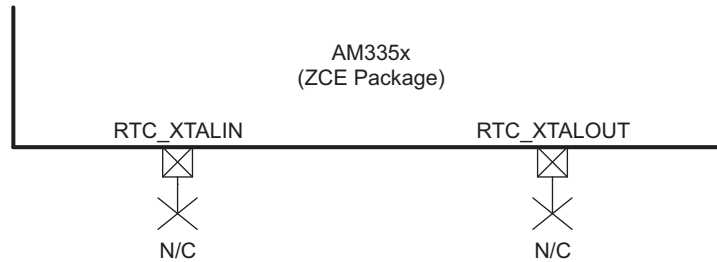
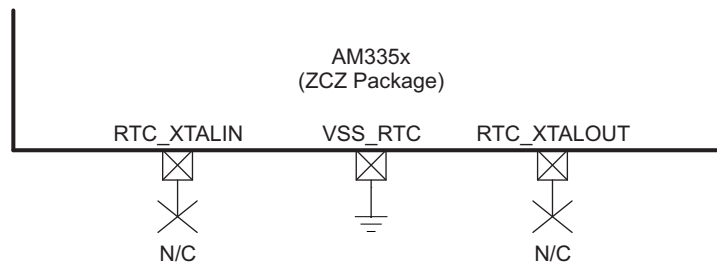

图 6-17. OSC1 (ZCE Package) Not Used Schematic
图 6-18. OSC1 (ZCZ Package) Not Used Schematic
图 6-17 shows the recommended oscillator connections when OSC1 of the ZCE package is not used and 图 6-18 shows the recommended oscillator connections when OSC1 of the ZCZ package is not used. An internal 10 kΩ pull-up on the RTC\_XTALIN terminal is turned on when OSC1 is disabled to prevent this input from floating to an invalid logic level which may increase leakage current through the oscillator input buffer. OSC1 is disabled by default after power is applied. Therefore, both RTC\_XTALIN and RTC\_XTALOUT terminals should be a no connect (NC) when OSC1 is not used.